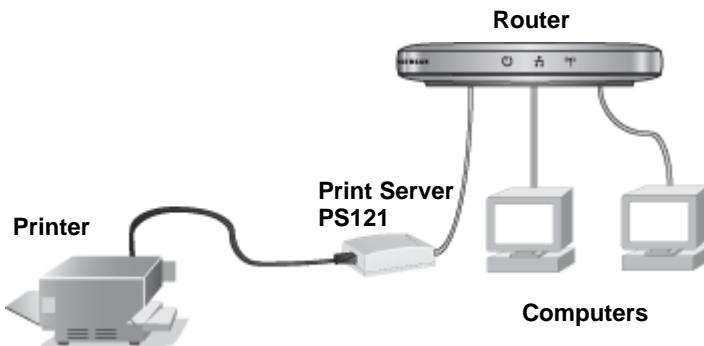

Figure 2-1
f. Verify that your computers are connected to LAN ports on your router, as shown in Figure 2-1 on page 2-2.